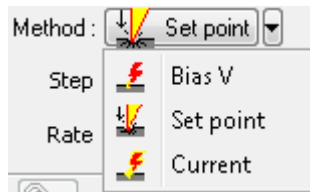

Fig. 12-38. Selecting the lithography method
3. In the drop-down list, select the desired mode of lithography (Fig. 12-38):